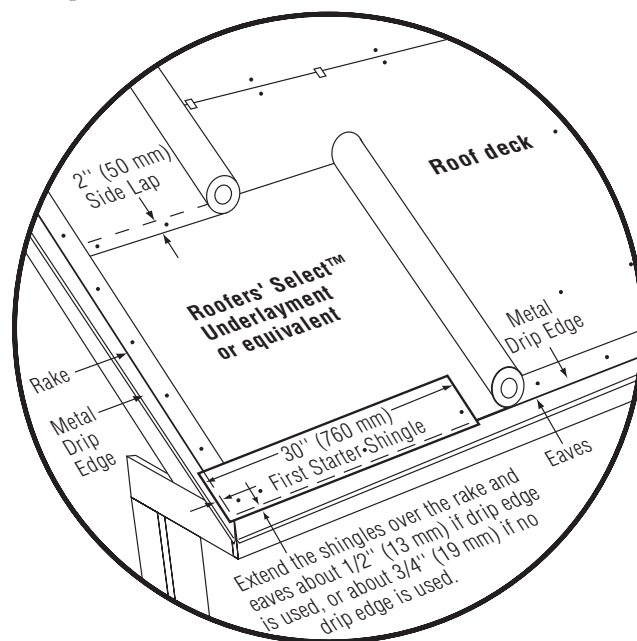

Figure 13-6: Standard slope underlayment and starter drip edge details.
2. Cut 6" off the length of the first starter shingle and apply the 30" piece to the lower left corner of the roof (Figure 13-6).